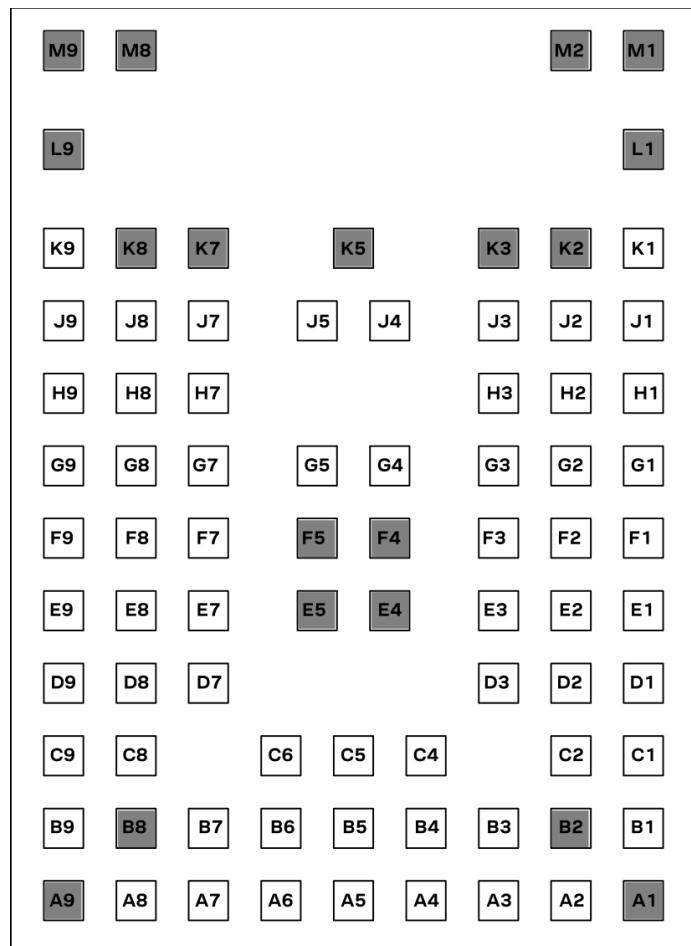

Figure 3: Pin assignment (top view)
Figure 3 describes the pin layout and pin number assignments.
- ☞ GND pins are shown in gray in Figure 3.